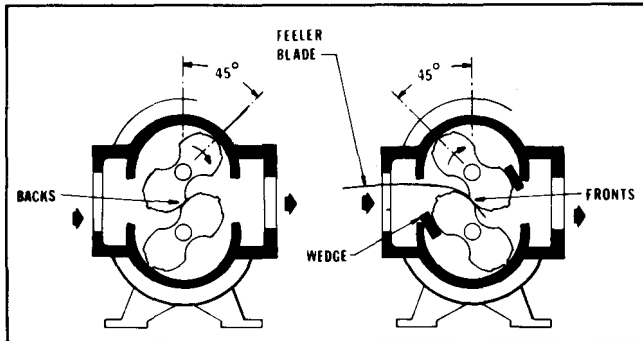

Figure 6 — Impeller Timing Viewed From Gear End
It is recommended that major repairs, if needed, be performed at the Factory or at a Dresser Service facility. However, it is recognized that this may not always be practical, especially when a spare blower is not available. If a blower is out of the warranty period, mechanical adjustments and parts replacement may be undertaken locally at the owner's option and risk. It is recommended that Factory Parts be used to insure fit and suitability. The maintenance of a small stock of on-hand spare parts can eliminate possible delays. When ordering parts give Item Numbers and their word descriptions from Figures 6 or 7 and Table 6. Also specify quantities wanted, and the blower size and serial number from the nameplate.
1. Drain oil completely from the gearbox sump by removing plug (22) in bottom of the headplate (2).
2. Remove all capscrews (26) holding the gearbox except the upper two. Bump the gearbox to break the joint, remove the last two capscrews and lift off the gearbox carefully in the horizontal plane avoiding contact with the gears. Remove gasket (7).
3. Be sure that each gear is marked for return to the same shaft and that the gears have match marks for the teeth alignment. Wedge the impellers as shown in Fig. 6; then
threads and face and install it on the stud. Block the impellers per Fig. 6. Push the bearing all the way against the sleeve (38) by turning the nut. Repeat for the second bearing.
8. The end clearances are set during the installation of bearing clamp plates. Install bearing clamp plates (34) using self locking screws (32). Measure the gear end clearance; turn the screws (34) in evenly till gear end clearance per Table 5 is achieved. Rotate the impellers a few times to center the bearings and recheck end clearances. Measure clearance between the bearing clamp plate and the headplate under the screw heads. This clearance should be same under each head. Obtain shim (74) equal to this clearance. Insert shim (74) between clamp plate and headplate under each capscrew (32). Tighten capscrews (32). Recheck end clearances.
9. Installing driven gear - Be sure shaft taper fits and gear bores are clean and free of scratches. THE GEAR BORES AND THE SHAFT TAPER FITS MUST BE FREE OF OIL. Place hardwood wedges as shown in Fig. 6. Install oil slinger (46) on the backside of the driven gear using washer (59) and capscrew (58). Torque the capscrews to 25 ft-lb. These capscrews are self locking type and should be replaced during each tear down. Apply Molykote Gn Paste to gear capscrews (31), on the threads and under the heads. Molykote Gn paste is available from Bearing Distributors. Install driven gear (4), washer (30), washer (69) and capscrew (31) so that match mark at tooth is at the line of engagement. Tighten the capscrew (31) to the torque in Table 4.
10. Installing drive gear (4) - Install a long, metal feeler gauge between the impeller lobes at the fronts as shown in Figure 6. Feeler gauge thickness to be a middle value from Table 5 for fronts. Align the gear so the tooth match marks agree with the driven gear, then install washer (30), washer (69) and capscrew (31). Tighten lightly with a small wrench, then check front and back clearances against Table 5 for each 45° position. Both fronts should be about the same and backs should about equal and within the specified range in Table 5. Adjust gear position, if necessary, then insert the corrected feeler gauge and wedges and use a torque wrench to tighten the gear capscrews to the torque specified in Table 4. Remove wedges and rotate the drive shaft by hand to make sure there are no gear tight spots or impeller contacts.
12. Install gearbox (3) with gasket (7) and capscrews (26).
13. Install drive end cover (5) and gasket (10) with spring pins (17) in place. Install capscrews (62). Check seal bore for concentricity with shaft using an indicator; reposition pins if necessary. Apply sealant on outer diameter of the seal (33). Lubricate seal lip and install it with lip facing inward using care to avoid scratching seal on keyway.
14. Install breather plug (21) in the gear end headplate and breather plugs (73) in the drive end headplate.